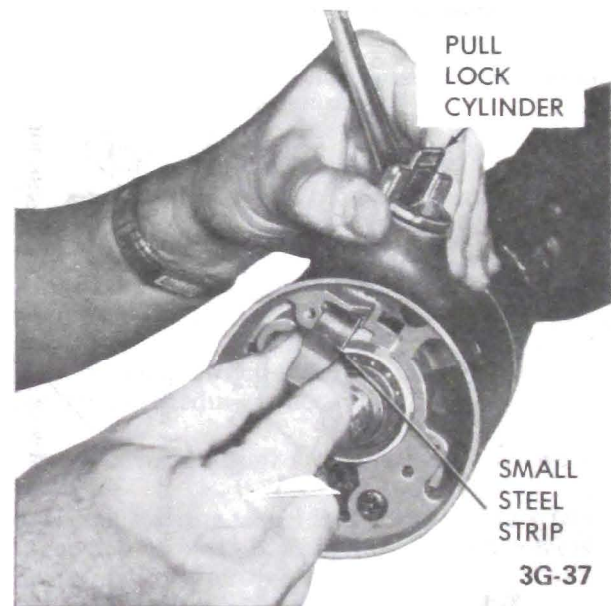

Figure 3G-57 - Removing Ignition Lock Cylinder
12. Insert a thin tool (small screwdriver or knife blade) into the slot next to the switch mounting screw boss (right-hand slot) and depress spring latch at bottom of slot, which releases lock. Remove lock. See Figure 3G-57.